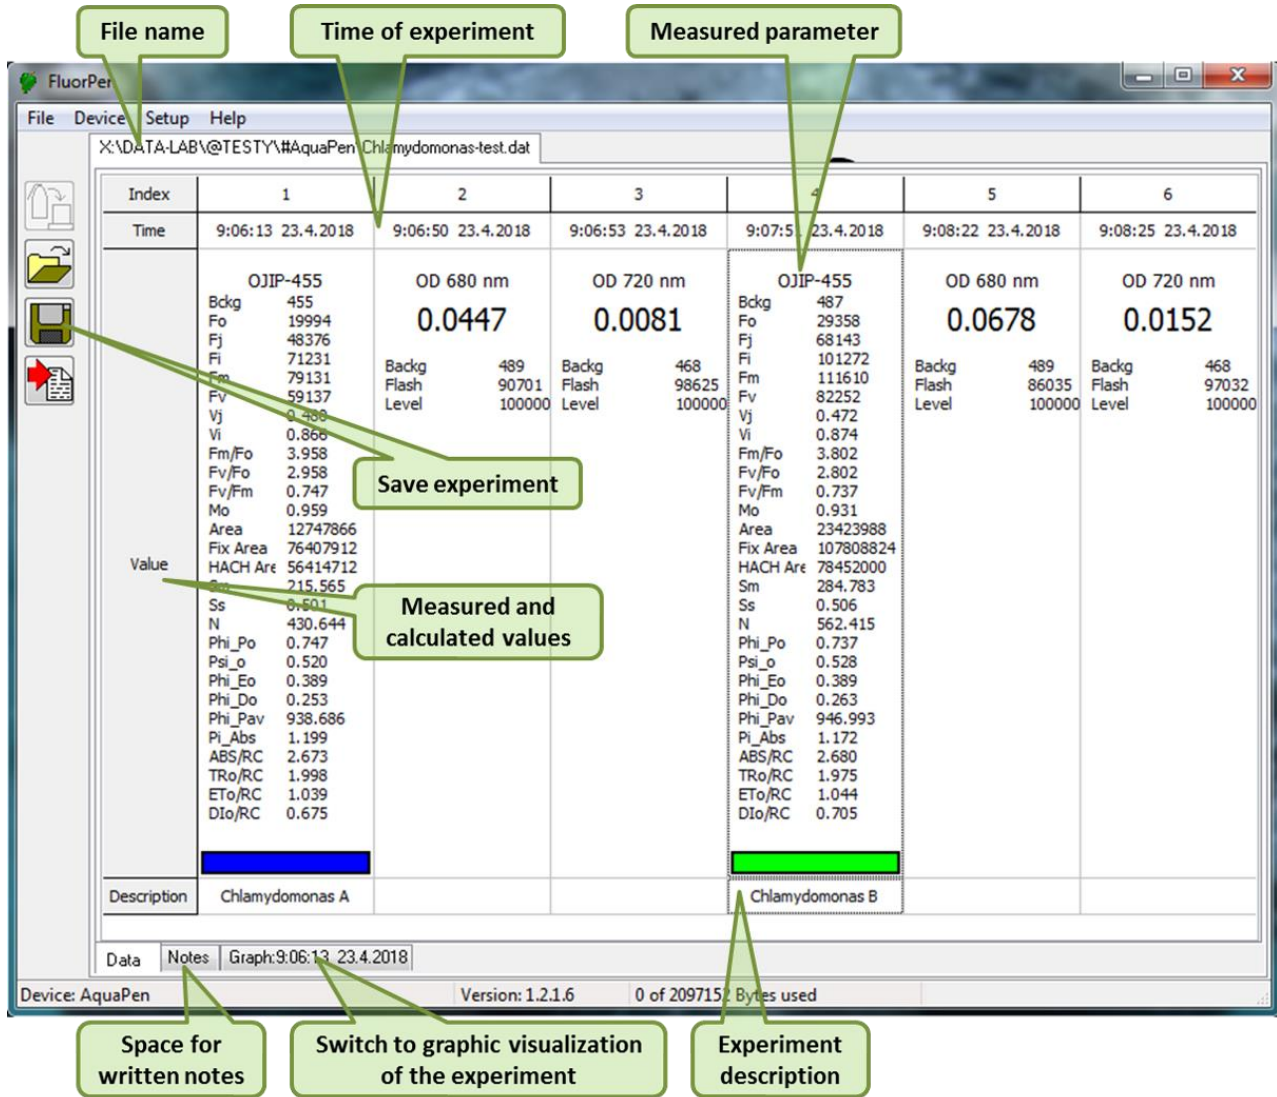

Fig. 20 Example of Data Transfer and Visualization.
3. Once the download is complete the Data can be visualized in a table shown below (Fig. 20).